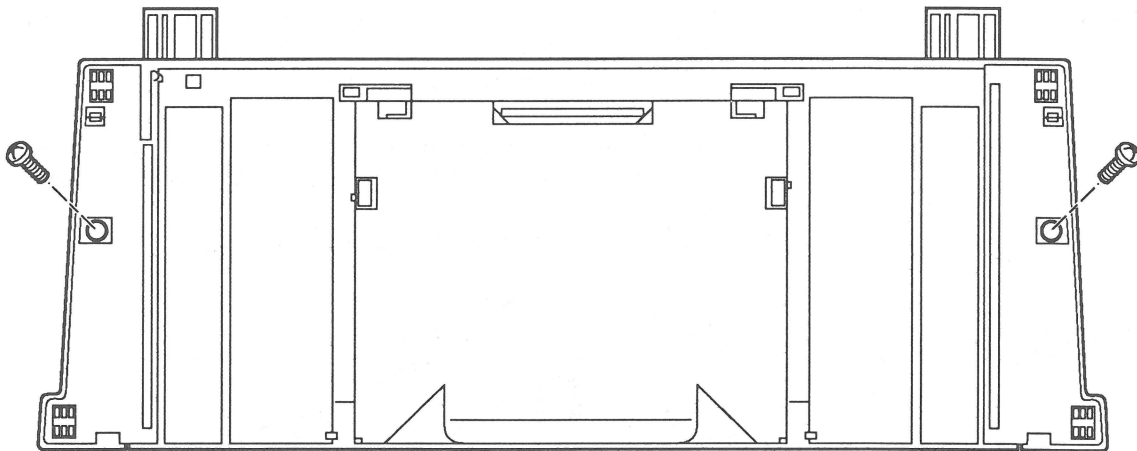

Figure 2-14 Output Tray and Base
3. Remove the two screws (**Figure 2-14**) and lift off the output tray and base assembly.